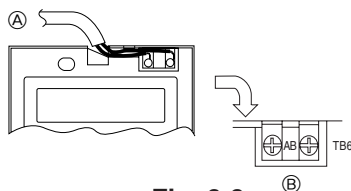

Fig. 6-9
2) Connecting procedures (Fig. 6-9)
① Connect the remote controller cord to the terminal block.